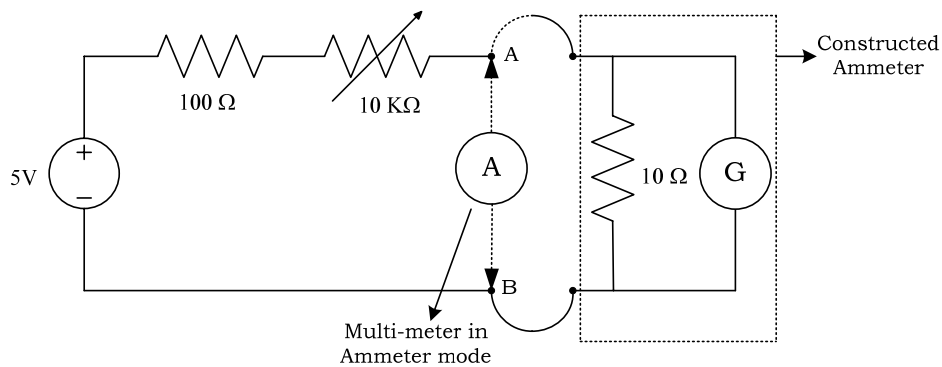

Figure 5.2: Use of galvanometer as an ammeter.
2. Now place the constructed ammeter in the circuit shown below in Figure 5.2.